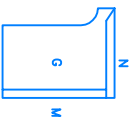

FIGURE 4
- 3) Nail M and N to G as shown (Fig 4) with glue and 1 1/4" finishing nails. Nail N to M with 1 1/4" nails. Wipe off excess glue.